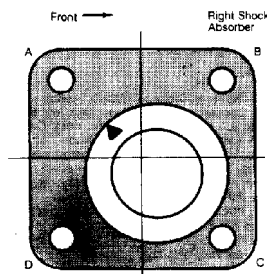

Fig. 1: RX7 & 626 Caster & Camber Adjustment Using Strut Support
2) Raise front of vehicle and support with jack stands. Press strut downward and change position of support according to the STRUT SUPPORT TABLE and Fig. 1.